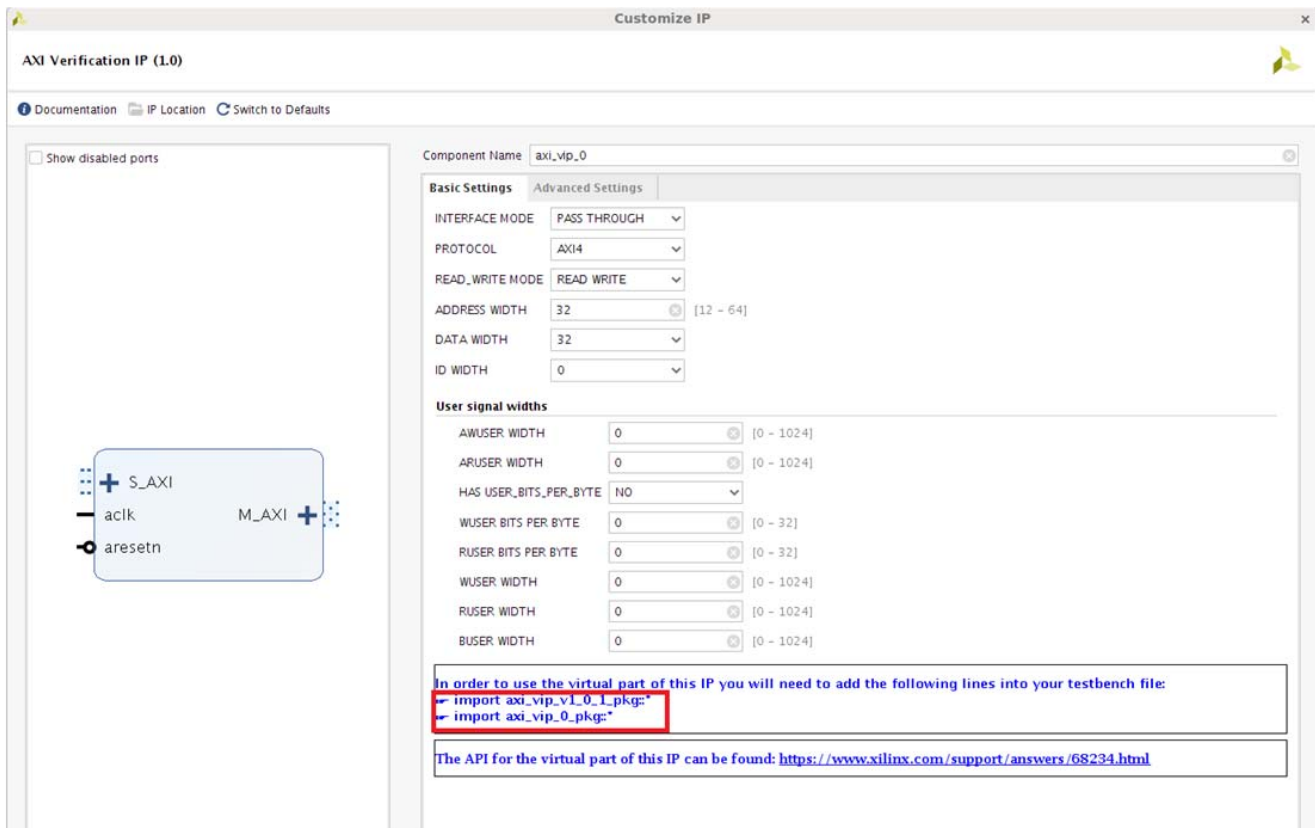

Figure 6-5: Component Name Location
2. Import two required packages: `axi_vip_v1_0_1_pkg` and `<component_name>_pkg` as shown in Figure 6-5. The `<component_name>_pkg` includes agent classes and its subclasses for AXI VIP. For each VIP instance, it has a component package which is automatically generated when the outputs are created. This component package includes a `typedef` class of a parameterized agent. Xilinx recommends importing this package because reconfiguration of the VIP has no impact of the test bench.